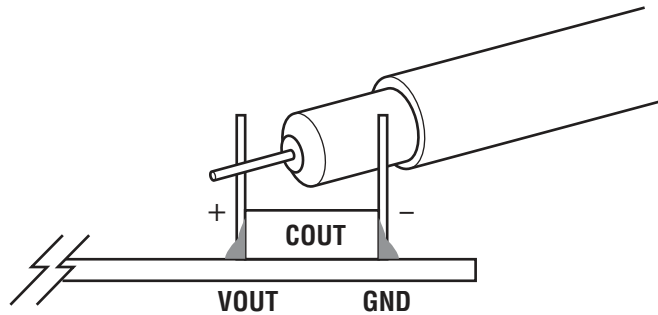

Figure 2. Scope Probe Placements for Measuring Input or Output Ripple
7. Once the input and output voltages are properly established adjust the loads within the operating range (0A to 1A max) and observe the output voltage regulations, output ripple voltages, switch node waveforms and other parameters. Refer to Figure 2 for proper input/output voltage ripple measurement.
Note 1: To measure the input/output voltage ripple properly, do not use the long ground lead on the oscilloscope probe. See Figure 2 for the proper scope probe technique. Short, stiff leads need to be soldered to the (+) and (-) terminals of an output capacitor. The probe's ground ring needs to touch the (-) lead and the probe tip needs to touch the (+) lead.